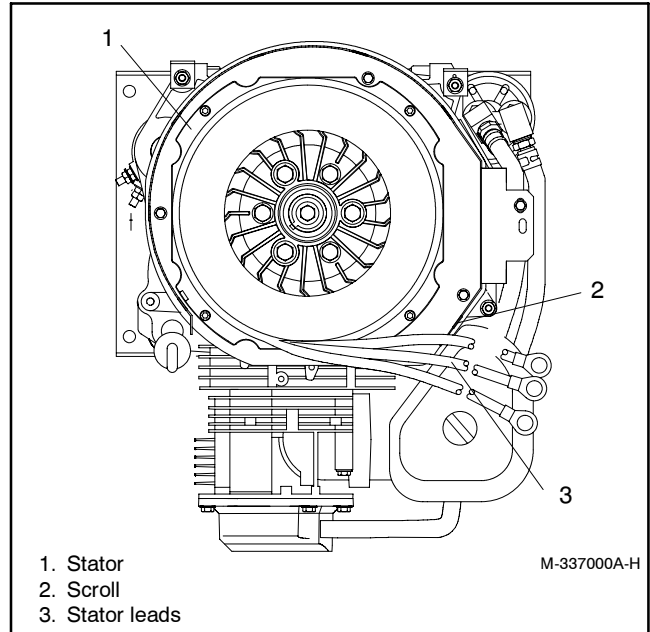

Figure 7-6 Generator Set Top View
- d. Place the stator in position as shown in Figure 7-6. Feed the stator leads through the opening in the alternator scroll.